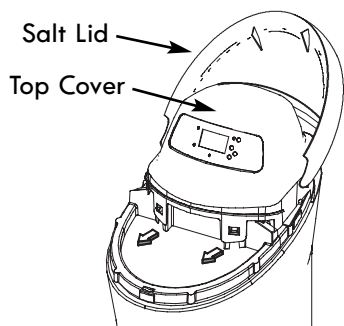

Figure 5
4. Remove the top cover. Pull outward on the two tabs to release top cover (see Fig. 5). The salt lid remains attached to the top cover when removed. Set both covers aside so they will not get scratched or broken.
After installing your water softener, put the covers on. Angle the covers so the top cover clips onto the back first, then bring down in front and clip on the tabs inside the rim and lower the salt lid closed (See Fig. 5).